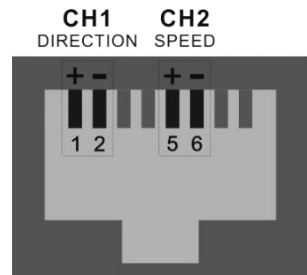

Fig.2 RJ45 Socket
2. Connection to Variable Speed Control Unit : Use a RJ45 cable to connect to the main unit's RJ45 8P socket. The pin definition of the RJ45 socket is as on Fig.2. They are 0 – 10VDC input, applying voltage out of this range will damage the unit permanently. CH1 1 – 10V corresponding to 10 – 100%, and CH2 having no connection or lesser than 2VDC , the pump will be in default/clockwise direction, else if voltage of more than 8VDC, the pump will rotate reversely